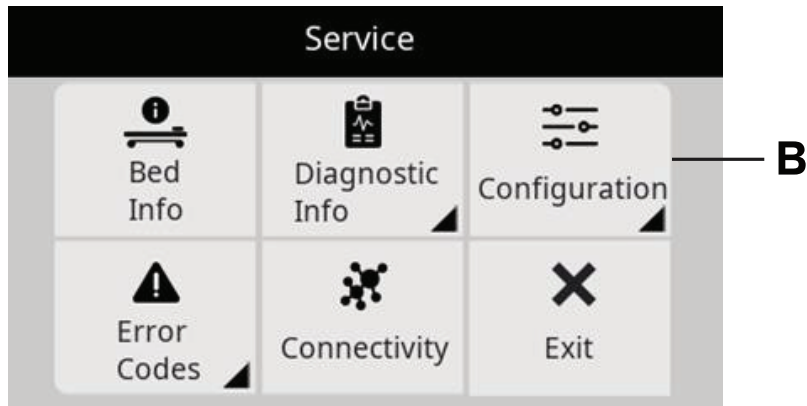

Figure 5 – ProCuity service menu
3. Enter the service menu and select **Configuration (B)** (Figure 5).